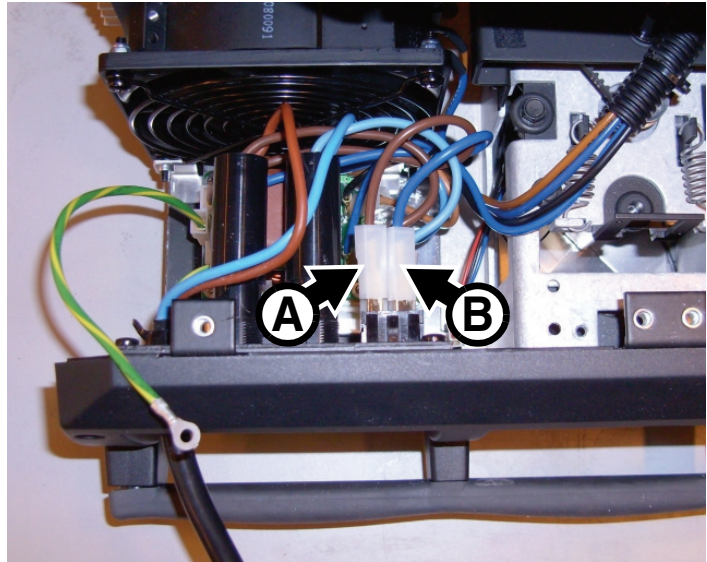

Figure 35
37. See Figure 35. Connect the brown **Live** power input lead on the mains filter to the spade connector **A** above the existing brown lead on the power on/off switch. Connect the blue **Neutral** power input lead on the mains filter to the spade connector **B** above the existing blue lead on the power on/off switch.